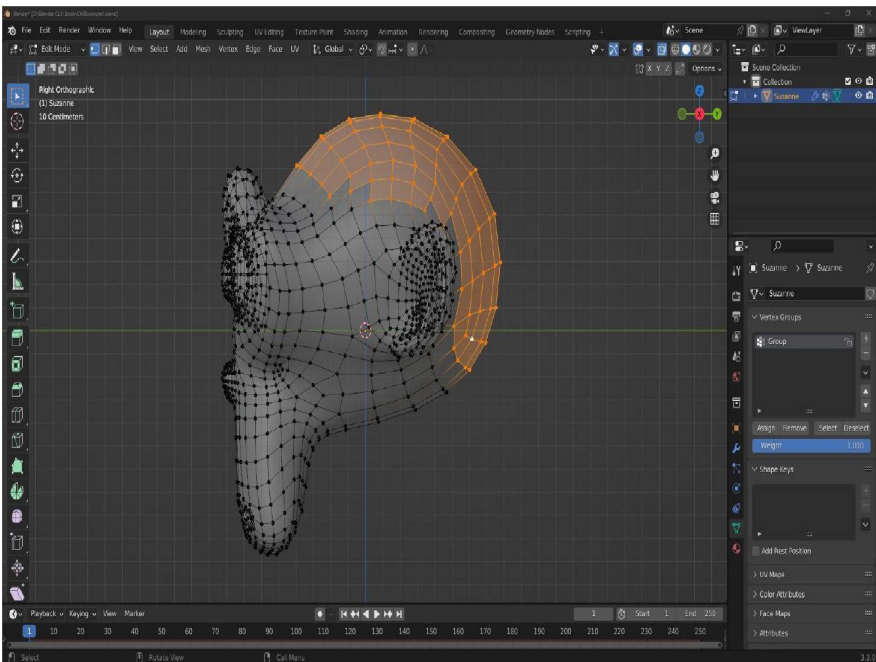

Figure 9.3: Selected vertices added to a new Vertex Group in Object Data Properties tab of the Properties panel
14. Below the **Vertex Groups** list, click **Assign** to assign the selected vertices to the new **Vertex Group** named **Group**, as shown in *Figure 9.3*: